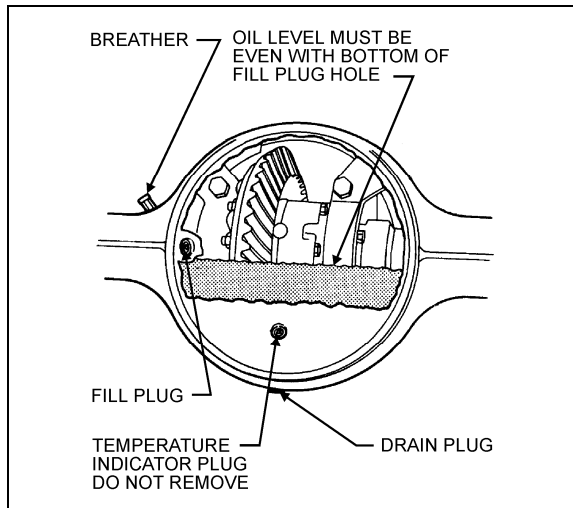

FIGURE 4: DIFFERENTIAL HOUSING BOWL 11007
- FIGURE 4: DIFFERENTIAL HOUSING BOWL 3
Check oil level and add (if necessary) every 25,000 miles (40 000 km) or according to the fleet maintenance interval, whichever comes first (Fig. 4).
3. Clean the area around the fill plug. Remove the fill plug from the differential axle housing bowl (Fig. 4).